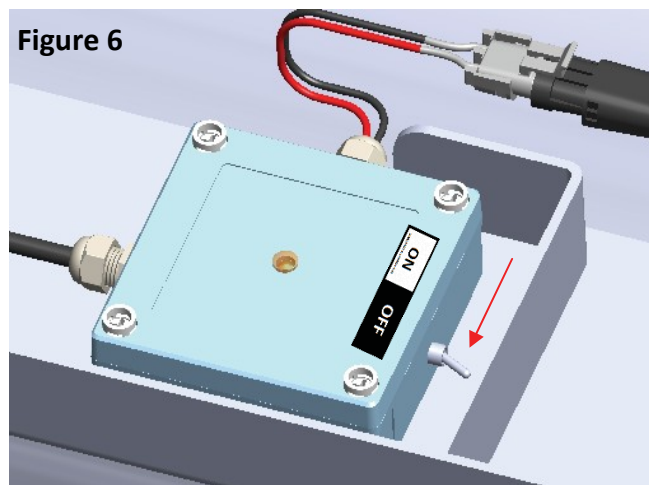

Figure 6
- 6) Verify that the evacuation tank controller is in the **OFF** position. **Figure 6**